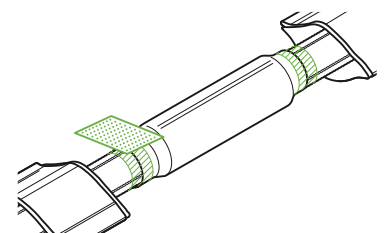

Fig. B12.2.7
7. Lightly abrade the ends of the sleeve and the outer casing with abrasive paper for a minimum length of 150 mm in both directions (Fig. B12.2.7). Clean this area with alcohol wipes.